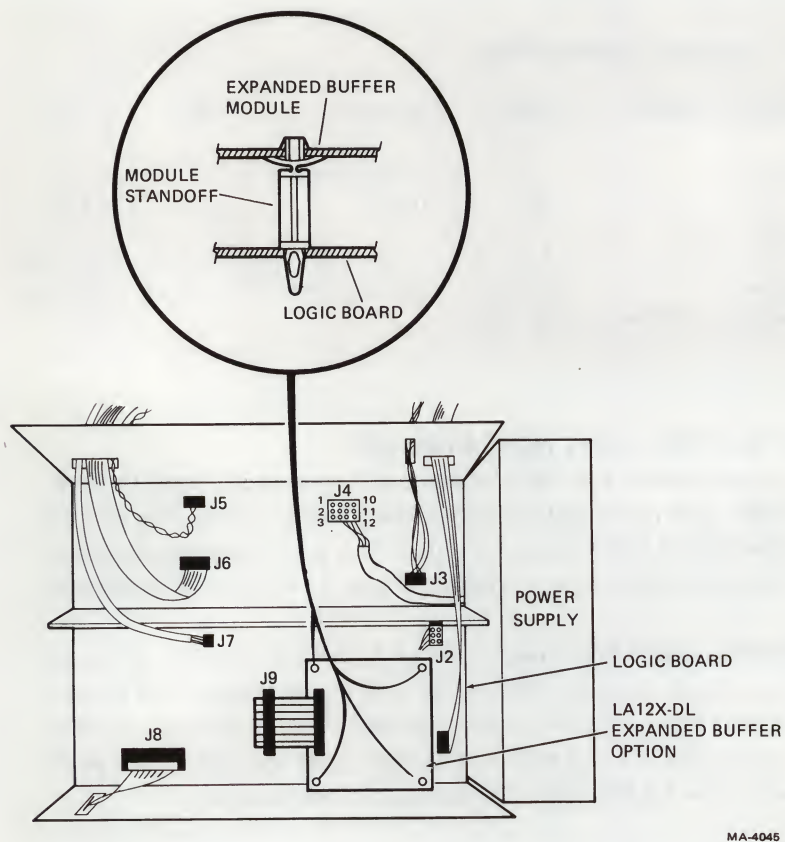

Figure 5-2 Expanded Buffer Option Installation
4. Secure the LA12X-DL option module to the logic board (Figure 5-2).